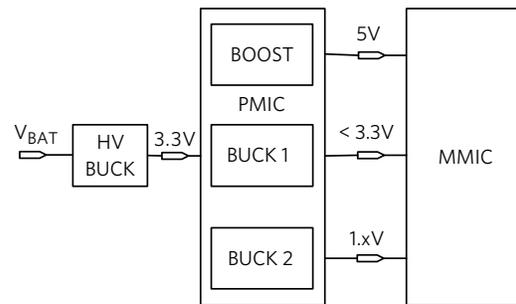

Figure 2. ADAS Radar PMIC
Figure 2 shows a highly integrated solution that reduces the number of ICs down to two. The high-voltage (HV) buck converter withstands the load dump and takes the battery voltage down to 3.3V, allowing for cold-crank operation near its output (well below 6V). A high-density, low-voltage PMIC integrates the back-end voltage regulators. With this partitioning, the required area can be conveniently split into two chunks, one for the front-end buck converter (HV BUCK) and one for the PMIC, making it easy to “wrap” the power management solution around the signal-chain circuitry.